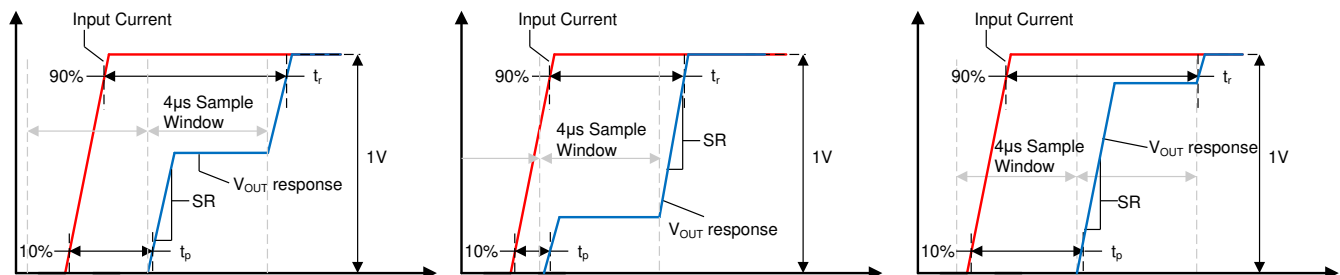

Figure 8-3. Small Current Input Step Transient Response
Slew rate (SR) is defined as the V_{OUT} rate of change for a single integration step's output transition, as shown in Figure 8-3. Because the device often requires two sampling windows to reach a full 90% settling of its final value, this slew rate is not equal to the 10%-90% transition time for the full output swing.
Propagation delay is the time period between the input current waveform reaching 10% of its final value and V_{OUT} reaching 10% of its final value. This propagation delay is heavily dependent upon the alignment of the input current step and the sampling period of the TMCS1107, as shown for several different sampling window cases in Figure 8-3.
Response time is the time period between the input current reaching 90% of its final value and the output reaching 90% of its final value, for an input current step sufficient to cause a 1-V transition on the output. Figure 8-3 shows the response time of the TMCS1107 under three different time cases. Unless a step input occurs directly during the beginning of one sampling interval the response time will include two sampling intervals.